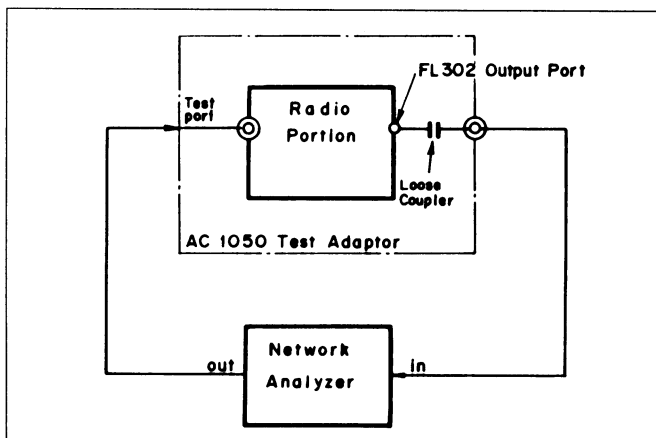

FIGURE 11 - ADJUSTMENT METHOD FOR FL301/FL302
1. Apply the output of the network analyzer to the RF coaxial input terminal and connect the loose coupled output from the FL302 output port to the network analyzer input (see Figure 11).